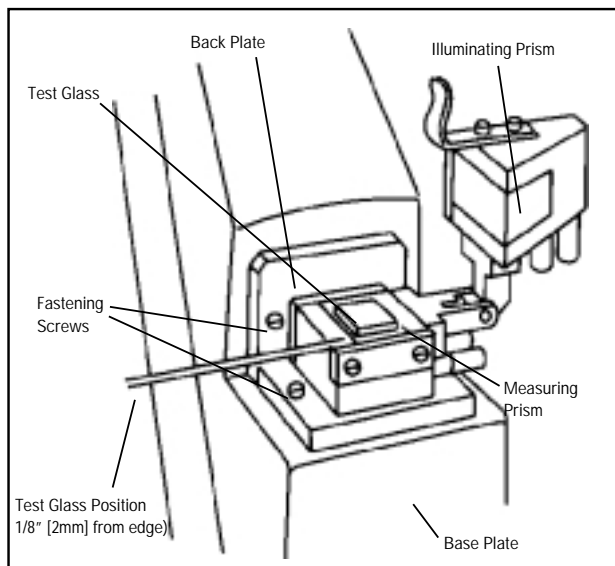

Figure 4
1. Open the prism assembly cover (Figure 4) and remove the protective lens tissue. Clean the measuring prism surface with alcohol and then distilled water. Wipe with a clean soft cloth or lens tissue, but do not wipe the measuring prism surface while it is dry. Any residue left on the prism can affect the accuracy of readings.
3. Place the refractive index test glass on the measuring prism surface with the imprinted side facing up. Position the polished end of the test glass toward the illuminator - about 1/8" (2mm) from the edge (Figure 4).